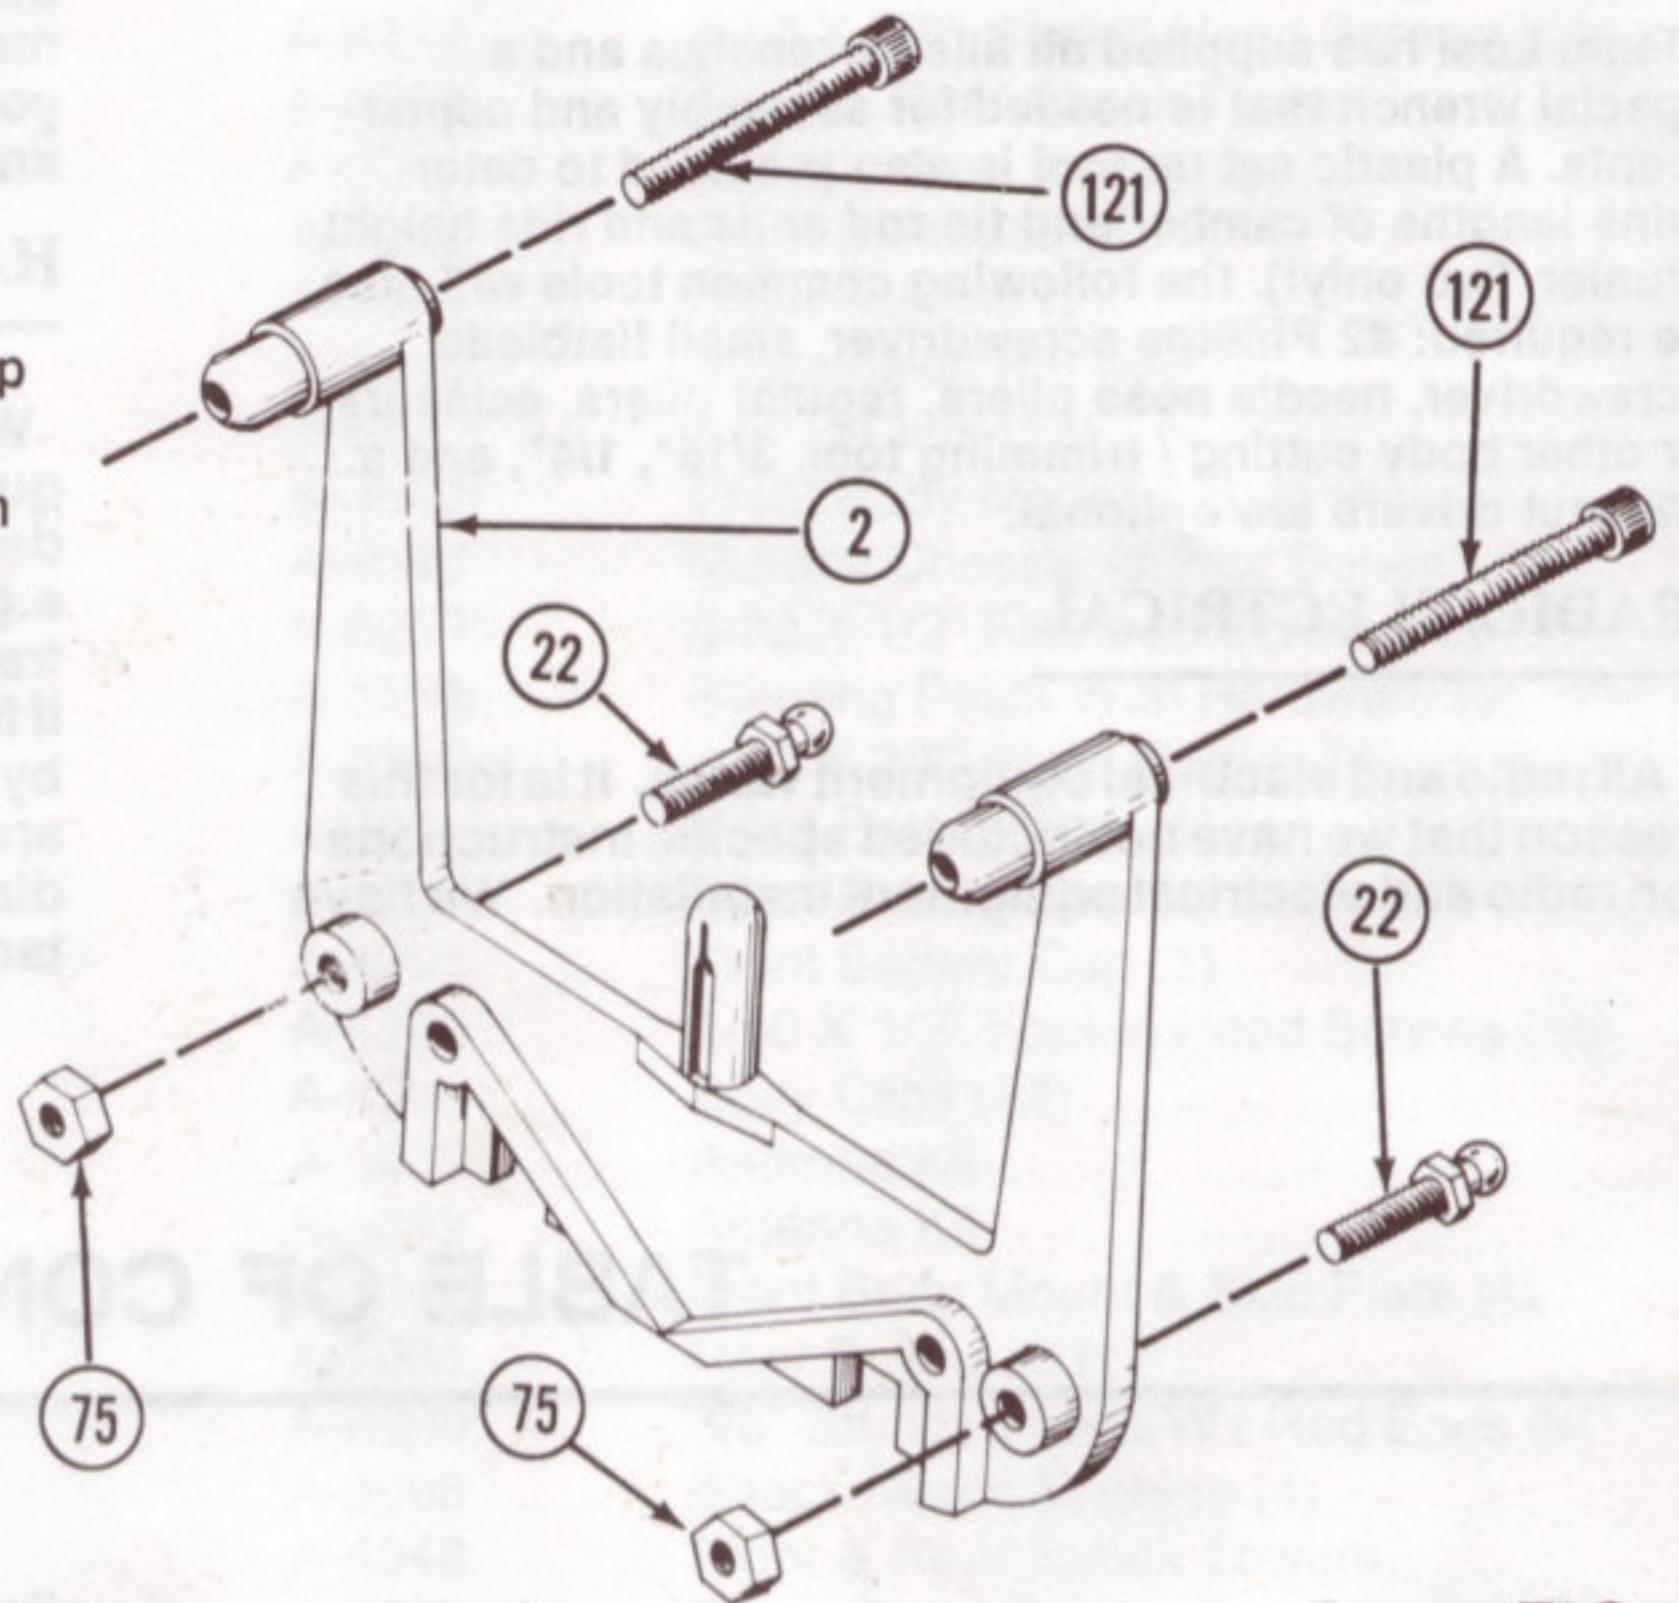

FIG. 1
1. Thread two 4-40 x 1" socket head screws (121) to top of front shock tower (2) from the rear as shown. Fig 1.
2. Thread two 3/8" studded balls (22) into lower hole in front shock tower (2) and secure with 4-40 nylon nuts (75) as shown. Fig. 1.